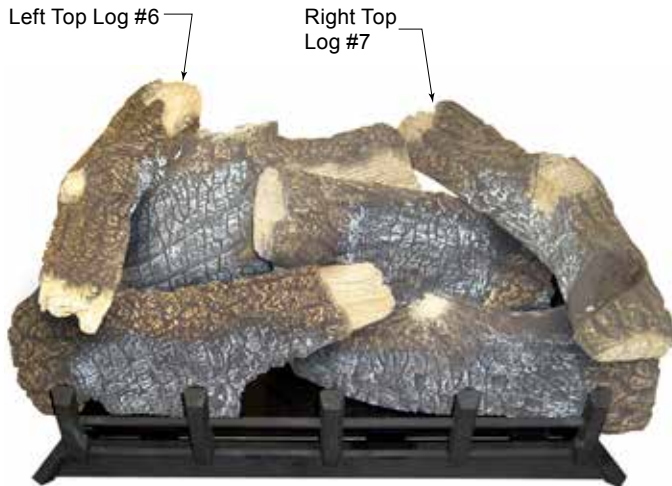

Figure 38
- Place top left log (#6) on left rear log (#4) and left front log (#5) using locating grooves on bottom of #6 and locating blocks on logs #4 and #5. *Figure 38*
- Place right top log (#7) on right rear log (#3) and right front log (#2) using locators on the bottom of log #7 and locators on logs #2 and #3. *Figure 38*